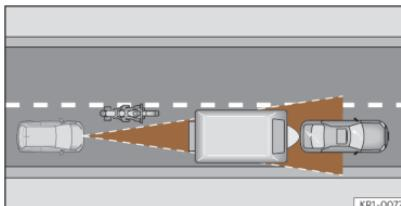

Fig. 125 Motorcyclist ahead out of range of the radar sensor.
- Vehicles that are not aligned while driving or that are outside the sensor's detection area, such as motorcycles >>> Fig. 125.